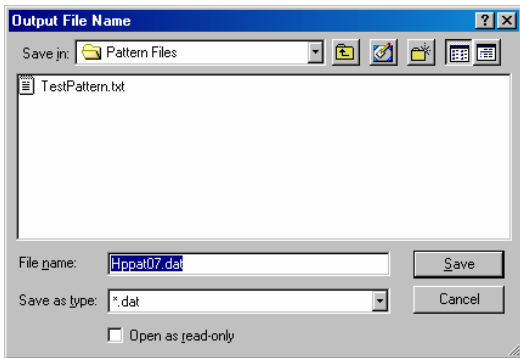

Figure 18. Converter Example Step #4
4. Select the location where the new pattern file should be stored and click the **Save** button (Figure 18). Note: Do not change the filename when using DAT-type pattern files. If the name is changed, the pattern generator will not recognize the test file.